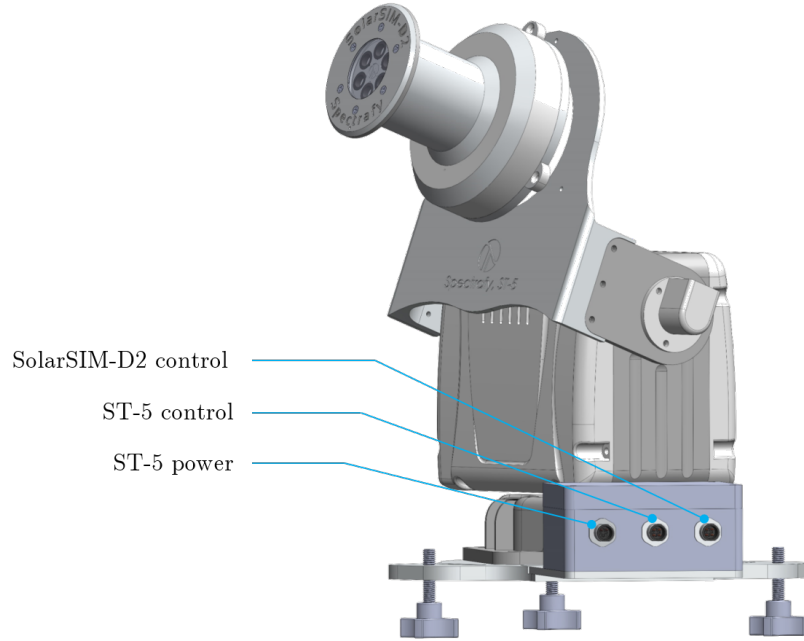

Figure 4: Connector functions of the ST-5's control box.
6. Connect the connector-end of the single-ended ST-5 power cable to the control box's ST-5 power connector, as per Figure 4. Similarly, connect the SolarSIM-D2